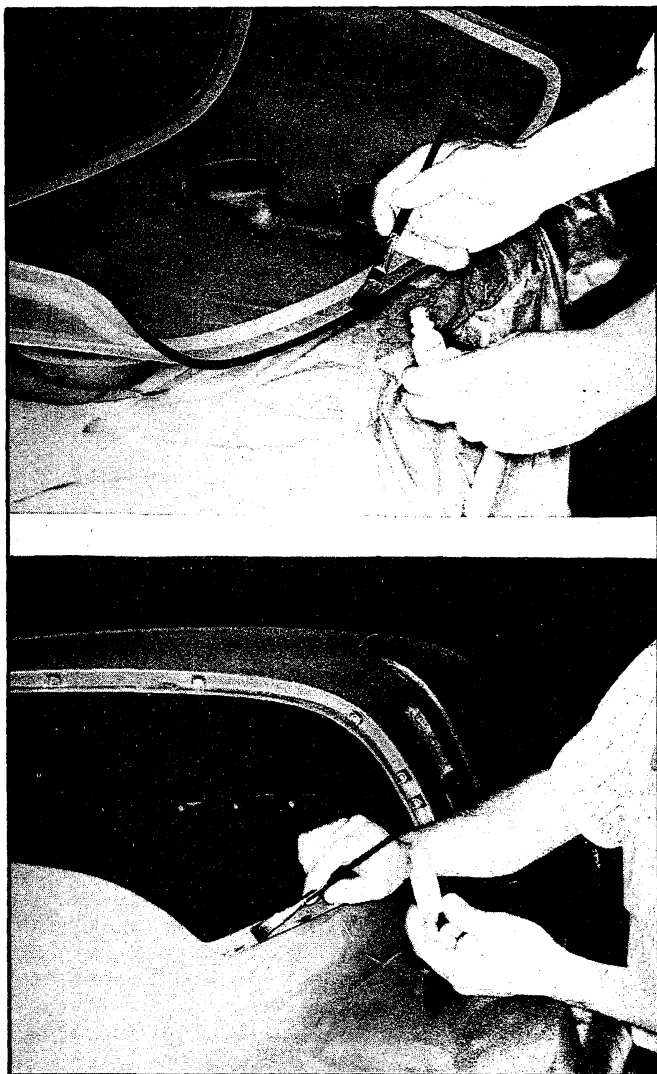

Fig. 58—Applying Silane Primer.
13. Clean inside edge surface of glass so that glass is free of any foreign material (oil, grease, etc.). Using 3/4" masking tape, place tape approximately 1/2 inch from edge of inside surface of glass completely around glass. Then apply a film of silane primer to inside edge surface completely around glass, also apply silane primer to sealing surface of pinchweld as shown in Figure 58.